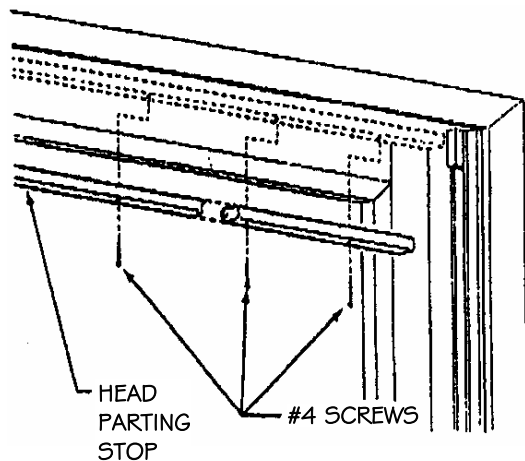

FIGURE 13
15. With the sash in the open position, move the parting stop 1/8" toward the exterior from its previously marked position, and fasten in place using the #4 screws provided. See Figure 13.